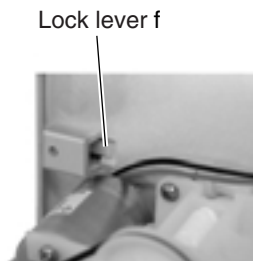

Fig.33-1
2. Push the part **f** of the lock lever in the direction of the arrow as shown in Fig.33-1 / 33-2 and disengage the LCD section from the front panel assembly.